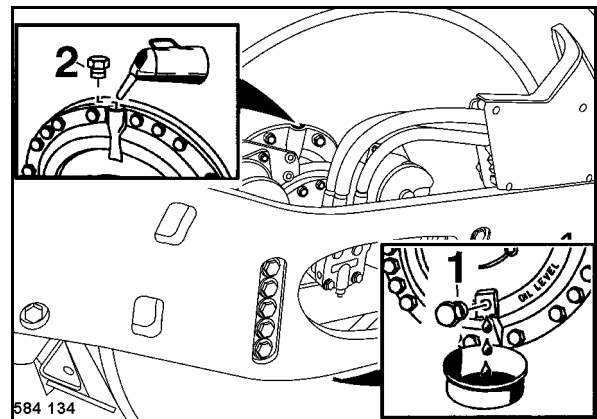

Fig. 131
- Move the drum, until oil level inspection plug (1) (Fig. 131) on the left hand side of the drum is in bottom position.
- Unscrew level inspection plug (1).